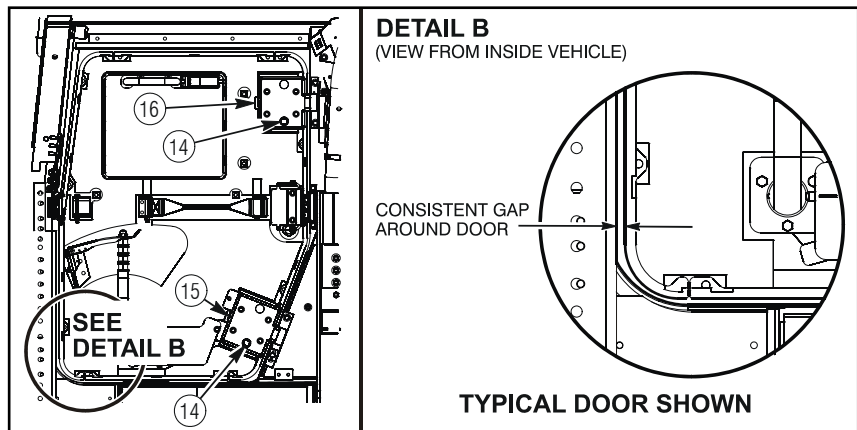

Figure 38b
7. With front door assembly (8) open, use an adjustable wrench to lock out upper latch assembly (16) and lower latch assembly (15) by turning square lug (14) clockwise for left side doors and counter clockwise for right side doors. Refer to figure 38b.
9. Close right front door assembly (8) and from inside vehicle, check gap around door to ensure no interference between door frame and return. Refer to figure 38b. If gap is not sufficient, support door assembly (8), loosen capscrews (9), adjust hinge (3) mounting position as required. Tighten ten capscrews (9) to 37 lb-ft (50.2 N·m).
1. Unlock lower latch assembly (15) by turning square lug (14) counter clockwise for left side door and clockwise for right side doors. Refer to figure 38b.